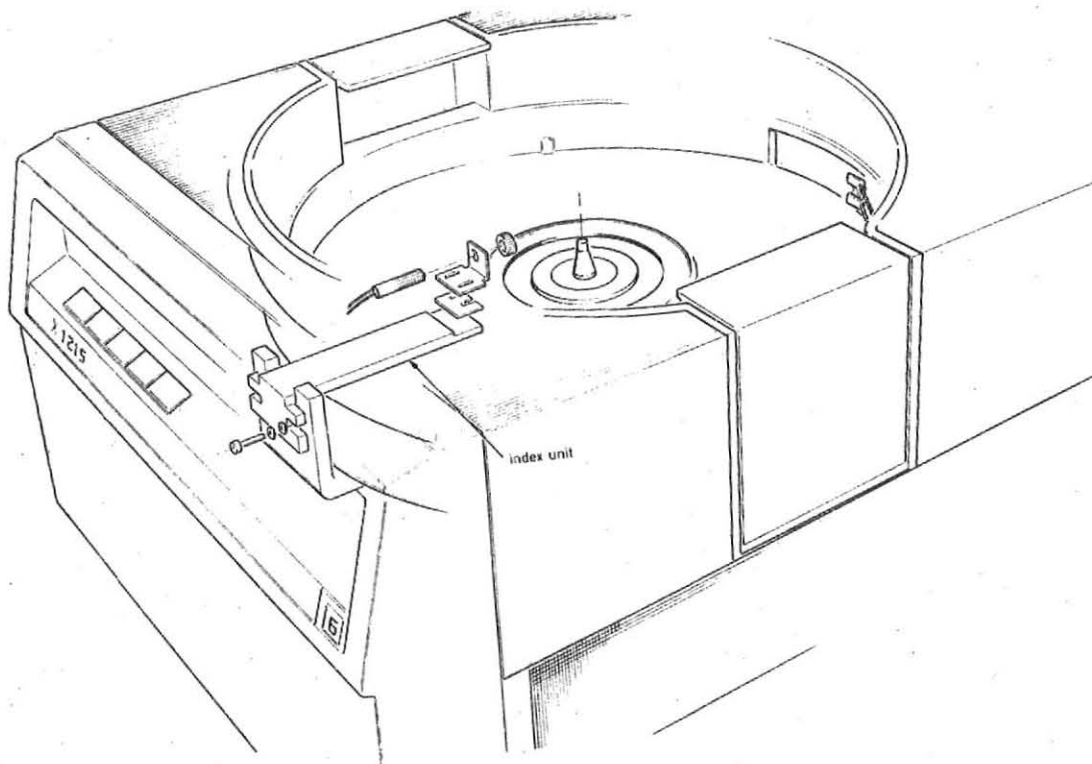

Figure 7-35
5.14 INDEX UNIT CARTRIDGE (figure 7-35)
5.15 FIXED DISK (figure 7-35 and 7-36)